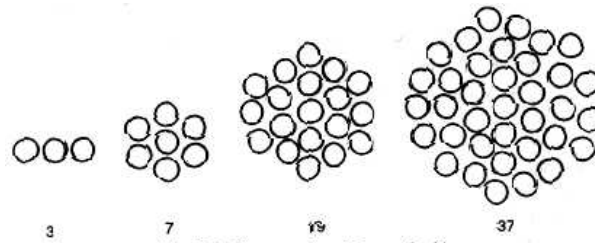

Fig. 5.14. Cross-sectional views of cables
3. **Cables.** Single cored or multi-cored insulated wires, having high current carrying capacities, are called cables. Each core of a cable may have 3, 7, 19, 37 or 61 wires as shown in Fig. 5.14. The wires are arranged in the following arrangements: